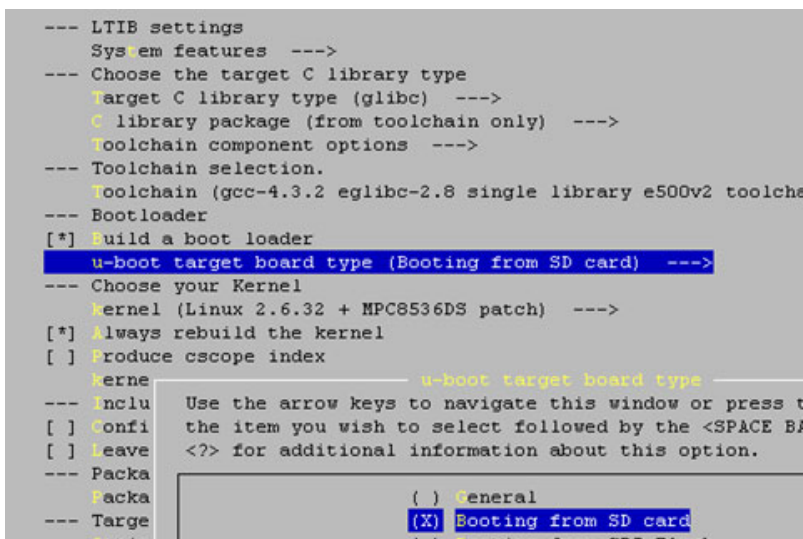

Figure 3. Finding “u-boot target board type”
3. Select the “u-boot target board type” menu (shown in Figure 3).